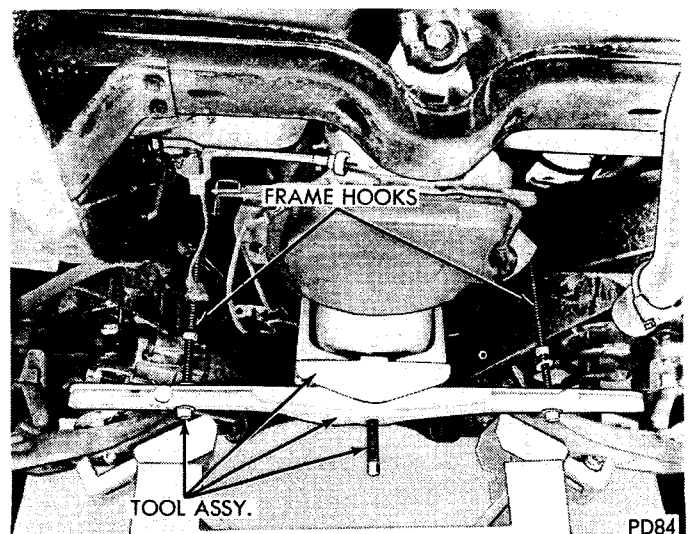

Fig. 1—Engine Support Tool
(7) Remove converter access cover.
(8) Rotate engine clockwise, using socket wrench on vibration dampener bolt at front of crankshaft to bring converter drain plug to bottom.
(9) Drain converter (using a 5/16 inch six point socket) and loosen pan to drain transmission.
(10) Mark converter and drive plate to aid in reassembly. The crankshaft flange bolt circle, inner and outer circle of holes in the drive plate, and the four tapped holes in front face of the converter all have one hole offset so these parts will be installed in the original position. This maintains balance of the engine and converter.
(11) Rotate engine clockwise with socket wrench on vibration dampener bolt to position the bolts attaching torque converter to drive plate, and remove them.
(12) Mark parts for reassembly. Remove propeller shaft, and center mount if so equipped, (see Group 16).
(13) Disconnect wire connector from the back up light and neutral starting switch.
(14) Disconnect gearshift rod and torque shaft assembly from transmission.
(15) Disconnect throttle rod from lever at the left side of transmission.
(16) Remove oil filler tube and speedometer cable.
(17) Install engine support fixture, Tool C-3487-A with truck frame hooks or a suitable substitute, that will support rear of the engine (Fig. 1).
(18) Raise transmission slightly with service jack to relieve load on the supports.
(19) Remove bolts securing transmission mount to crossmember and crossmember to frame, then remove crossmember.
(20) Remove all bell housing bolts.
(21) Carefully work transmission and converter assembly rearward off engine block dowels and disengage converter hub from end of crankshaft. **Attach a small "C" clamp to edge of bell housing to hold converter in place during transmission removal.**
(22) Lower transmission and remove assembly from under the vehicle.
(23) To remove converter assembly, remove "C" clamp from edge of bell housing, then carefully slide assembly out of the transmission.